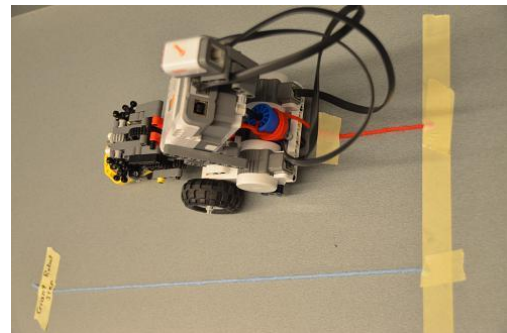

Figure 2
- Repeat for Robot Baby Step. See Figure 2